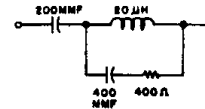

Fig. 9. RTMA Dummy Antenna
4. Standard RTMA dummy antenna shown in Fig. 9.